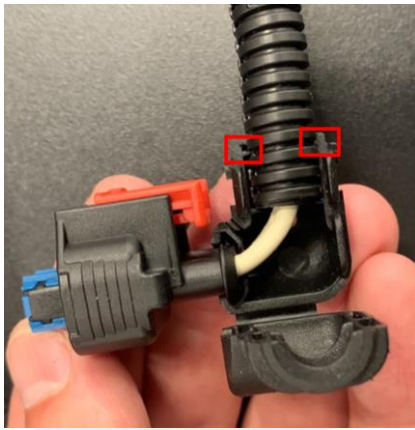

Figure 11 – EPB electrical connector disconnected for clarity
- b. Align the third groove on the corrugated tube with the ridge and snap the backshell shut (Figures 11 and 12). Listen for an audible click when closing the backshell.